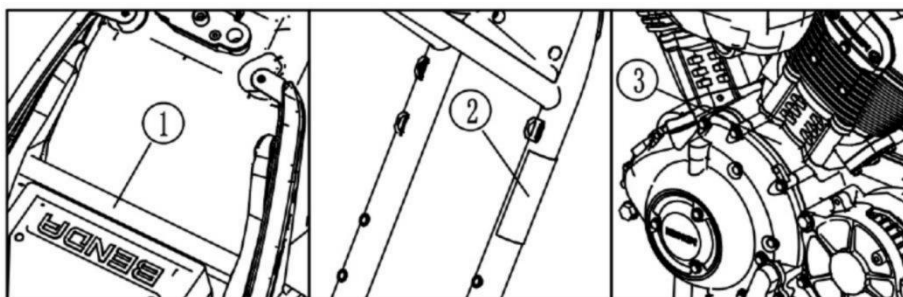

Figure 1 Location of VIN, Nameplate and Engine Number
1.2. Location of number (Figure 1)
① VIN: rear frame tail, tail center pipe;
② Nameplate: right front side tube of frame;
③ Engine number: left side of the engine;